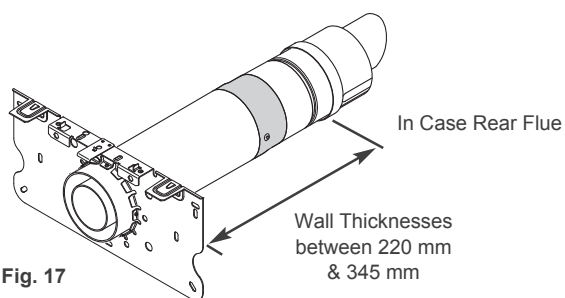

Fig. 17
1. For more detail on in case rear flue (Fig. 17) see Section 6.1.2. This flue accommodates wall thicknesses between 220 mm & 345 mm.